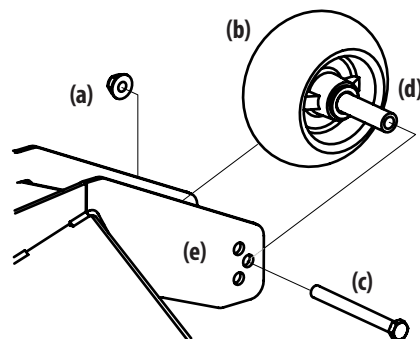

Figure 32
2. Remove the lock nut (a) securing one of the front gauge wheels (b) to the deck. Remove the front gauge wheel (b), hex screw (c) and spacer (d) (Figure 32).
3. Insert the hex screw (c) into one of three index holes in the front gauge wheel bracket (e) that will give the front gauge wheel (b) a 1/4-1/2" (6.4 to 12.7 mm) clearance with the ground (Figure 32 on page 25).
4. Note the index hole of the just adjusted front gauge wheel (b) and adjust the other front gauge wheel (b) into the respective index hole of the other front gauge wheel bracket (e) (Figure 32 on page 25).